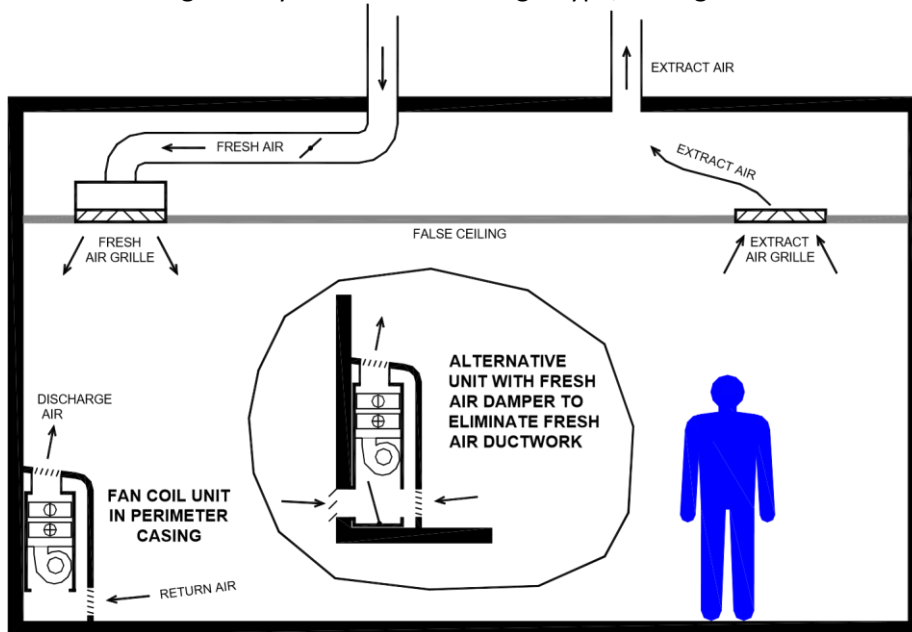

Figure 2 - Blow-Through Fan Coil Unit
- noise from the discharge of a fan coil unit is normally more of an issue for cased, floor standing units so these units are generally of the 'blow-through' type, see Figure 2